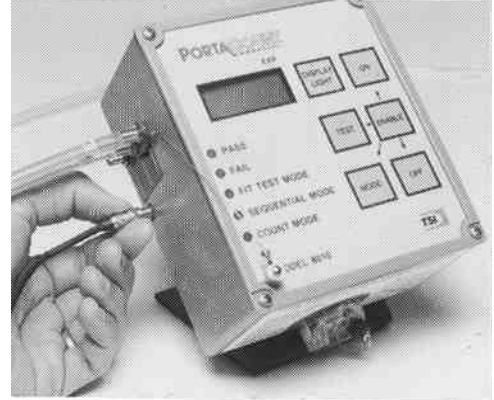

Figure I-16. Connecting the printer interface cable to the PORTACOUNT
Step 2. Screw the small end of the printer interface cable to the serial interface connector (fig. I-16).